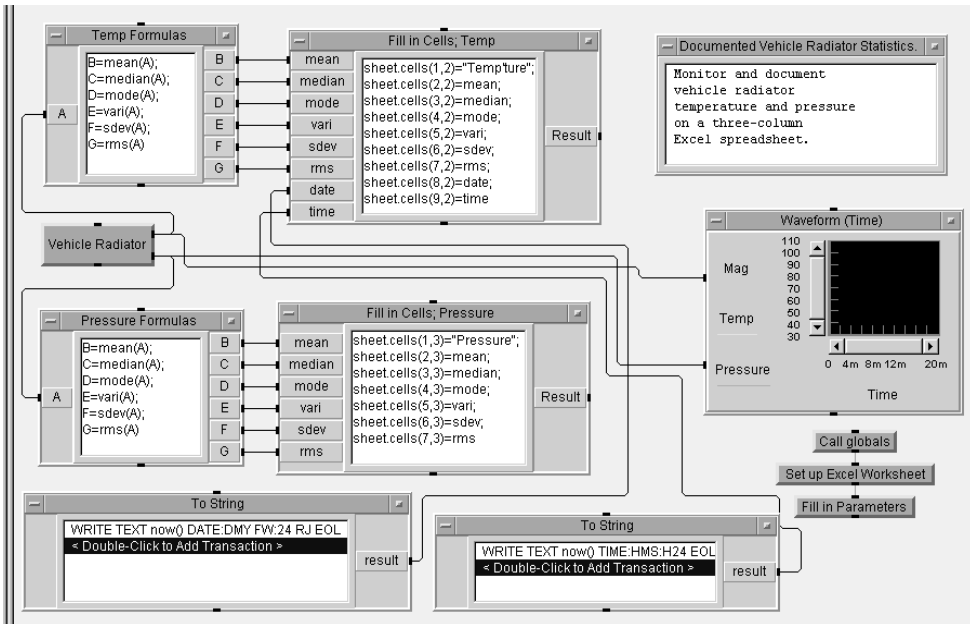

Figure 10.3. The completed Lab 10-2 program
29. Save your program again; your completed program should look like Figure 10.3.